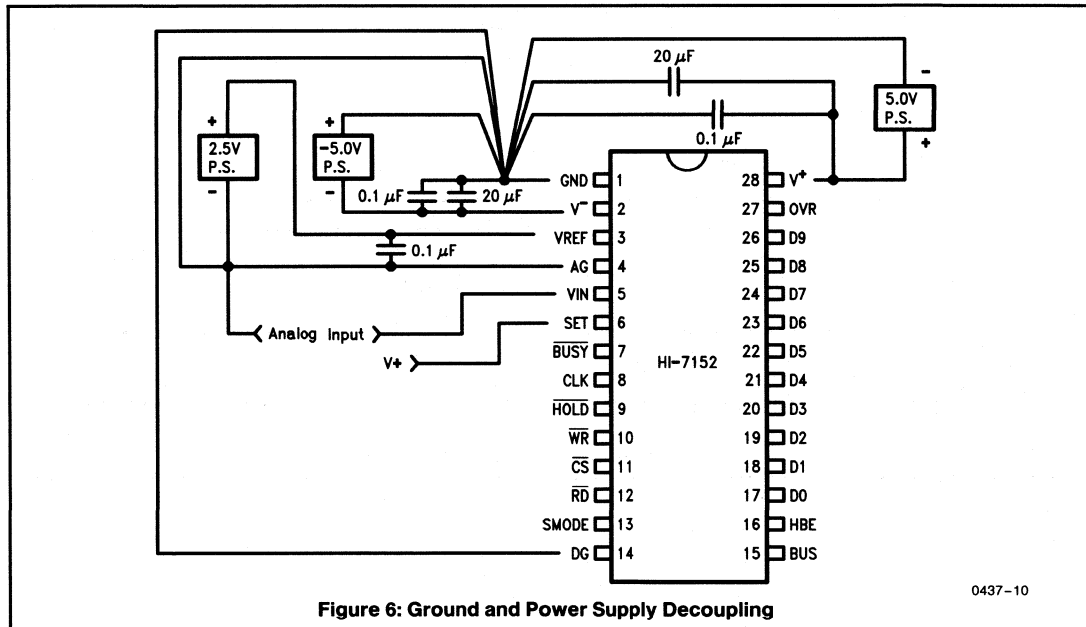

Figure 6: Ground and Power Supply Decoupling
The HI-7152 has three ground pins (AG, DG, GND) for improved system accuracy. Proper grounding and bypassing is illustrated in Figure 6. The AG pin is a ground pin that does not carry any current and is used internally as a reference ground. The reference input and analog input should be referenced to the analog ground (AG) pin. The digital inputs and outputs should be referenced to the digital ground (DG) pin. The GND pin is a return point for the supply current of the comparator array. The comparator array is designed such that this current is approximately constant at all times and does not vary with input voltage. By virtue of the switched capacitor nature of the comparators, it is necessary to hold GND firmly at zero volts at all times. Therefore, the system ground star connection should be located as close to this pin as possible.